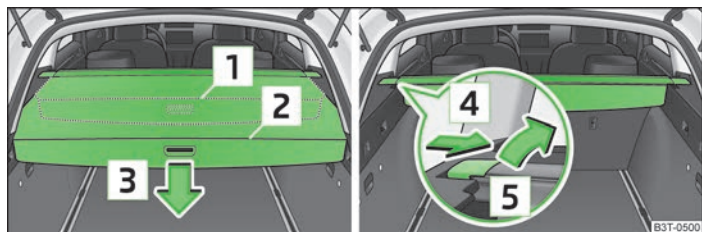

Fig. 69 Boot: foldable boot cover/removing foldable boot cover
➤ Pull the foldable boot cover as far as the stop into the secured position **[2]** » Fig. 69.
➤ Press the cover in the handle area in the direction of the arrow **[3]** » Fig. 69, and the cover automatically rolls up into position **[1]**. The cover is fully rolled up by pressing once again.
➤ The fully folded boot cover can be removed to transport bulky goods by pressing on the side of the cross rod in the direction of the arrow **[4]** » Fig. 69 and taking it out by moving it in the direction of the arrow **[5]**.
- Open the boot lid. The foldable boot cover rolls up automatically in the position **[1]** to » Fig. 69 on page 76.